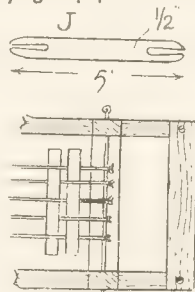

Fig. 4 — A suitable shuttle
A shuttle for the loom is illustrated in Fig. 4 (J). It can be cut from $\frac{1}{2}$ in. fretwood, but better, perhaps, to use a thinner plastic material. When cut to the shape, carefully glasspaper off all rough edges. For using different colours of weft thread, two or three shuttles are necessary.